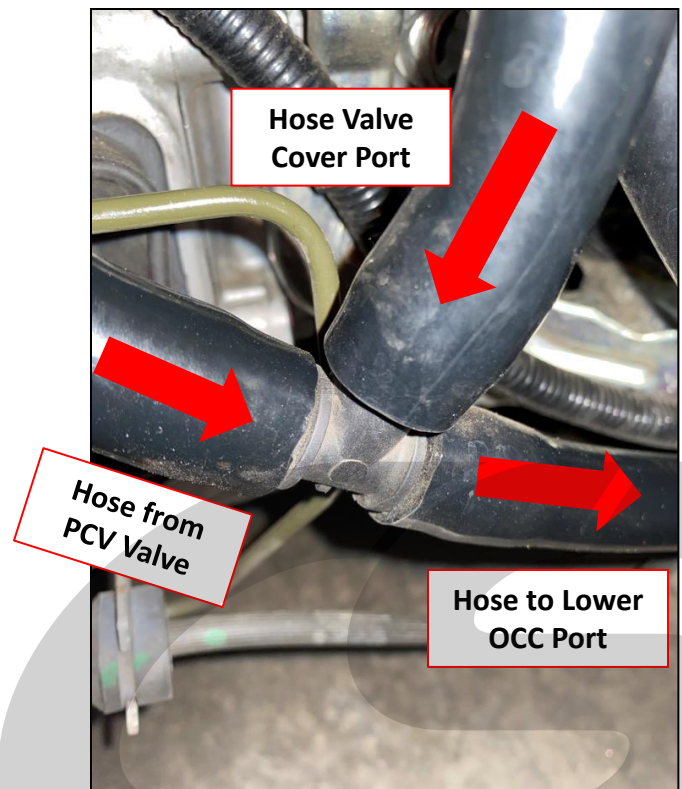
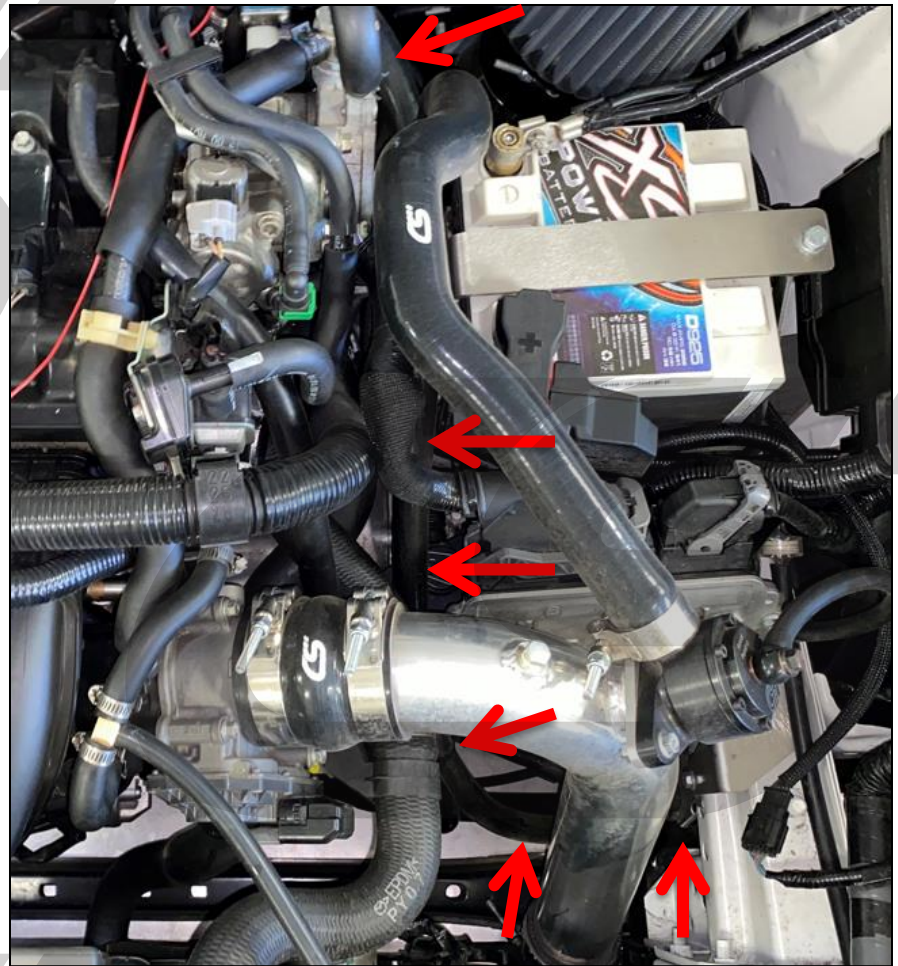
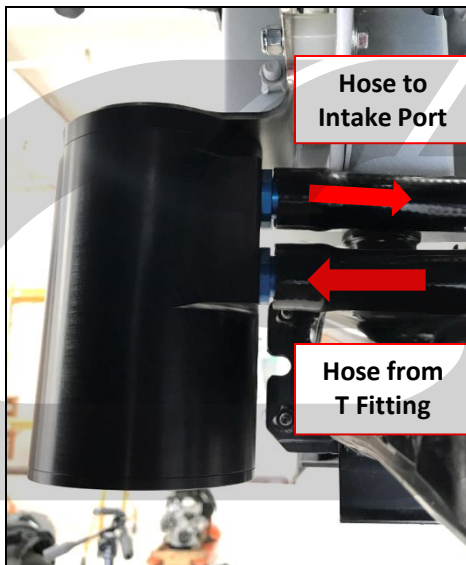

Figure 3f
Figure 3h
Figure 3g
- k) **Trim the hose to length & install on the T fitting.** Final routing into the T fitting shown in **Figure 3f** for reference. Catch can ports also shown for reference in **Figure 3g** on the next page.
- l) **Using the remaining hose, connect to the upper port of the OCC. Route this hose along the hose previously installed and along the side of the battery to the port on the intake pipe. Connection to OCC shown for reference in Figure 3g below. Approximate routing shown in Figure 3h.**